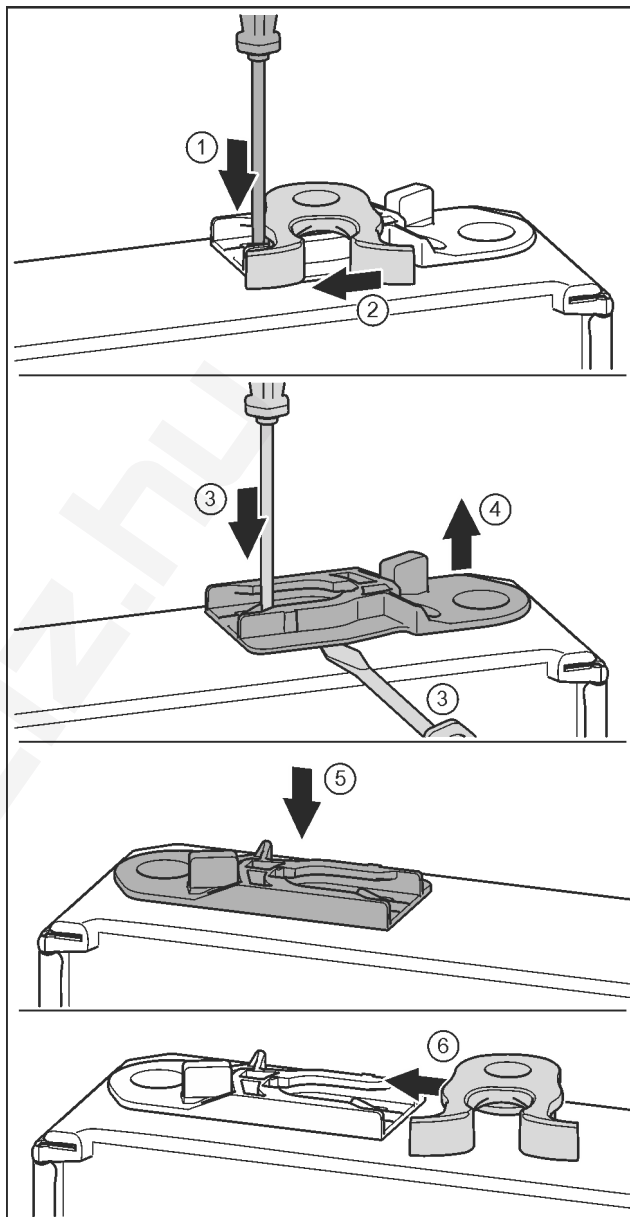

Fig. 34 \*
- ▶ Push the tab downwards with a slotted screwdriver. Fig. 34 (1) \*
- ▶ Pull the door latch out of the guide. Fig. 34 (2) \*
- ▶ Pull out the guide bush: Press the tab with a slotted screwdriver and, at the same time, insert the slotted screwdriver under the guide bush. Fig. 34 (3, 4) \*
- ▶ Slide the guide bush included in the scope of supply to the other side of the housing. Fig. 34 (5) \*
- ▶ Push the door latch into the guide. Fig. 34 (6) \*